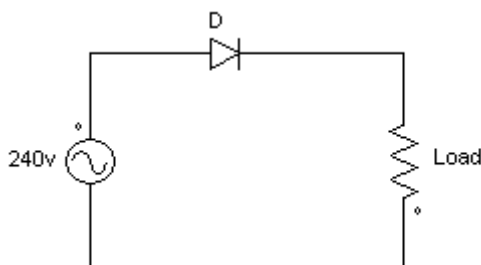

Figure 1
- 1- Consider the rectifier represented in Figure 1, which is connected to a power supply $V_s(t) = 240V$, 50Hz.
- 2- Replace the diode in Figure 1 with a thyristor.